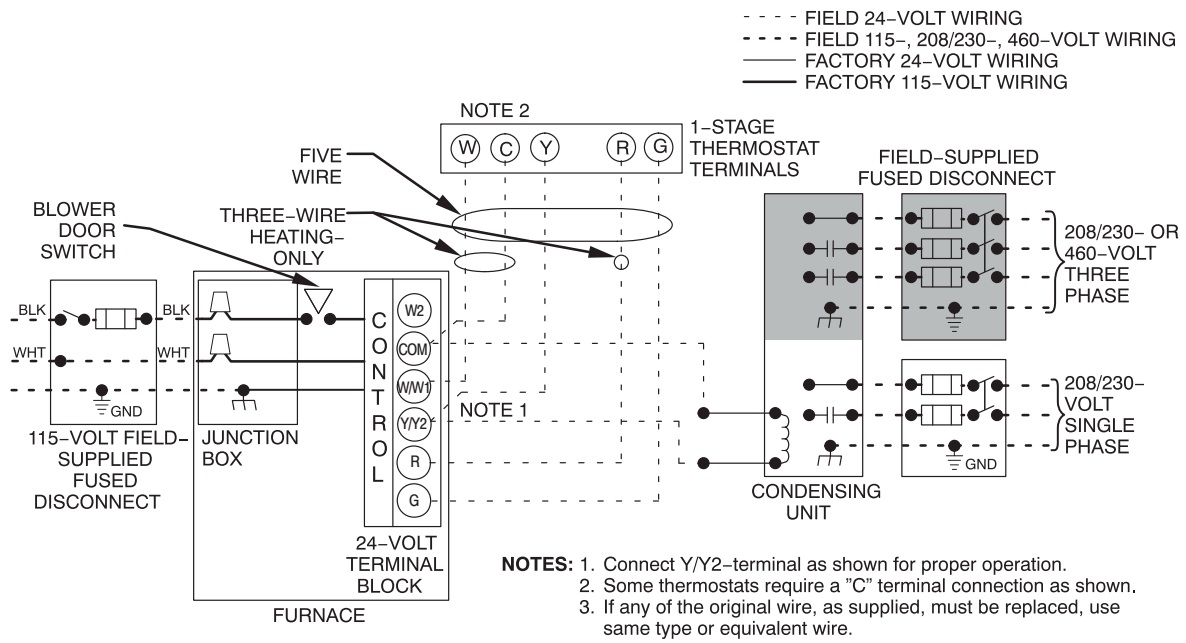
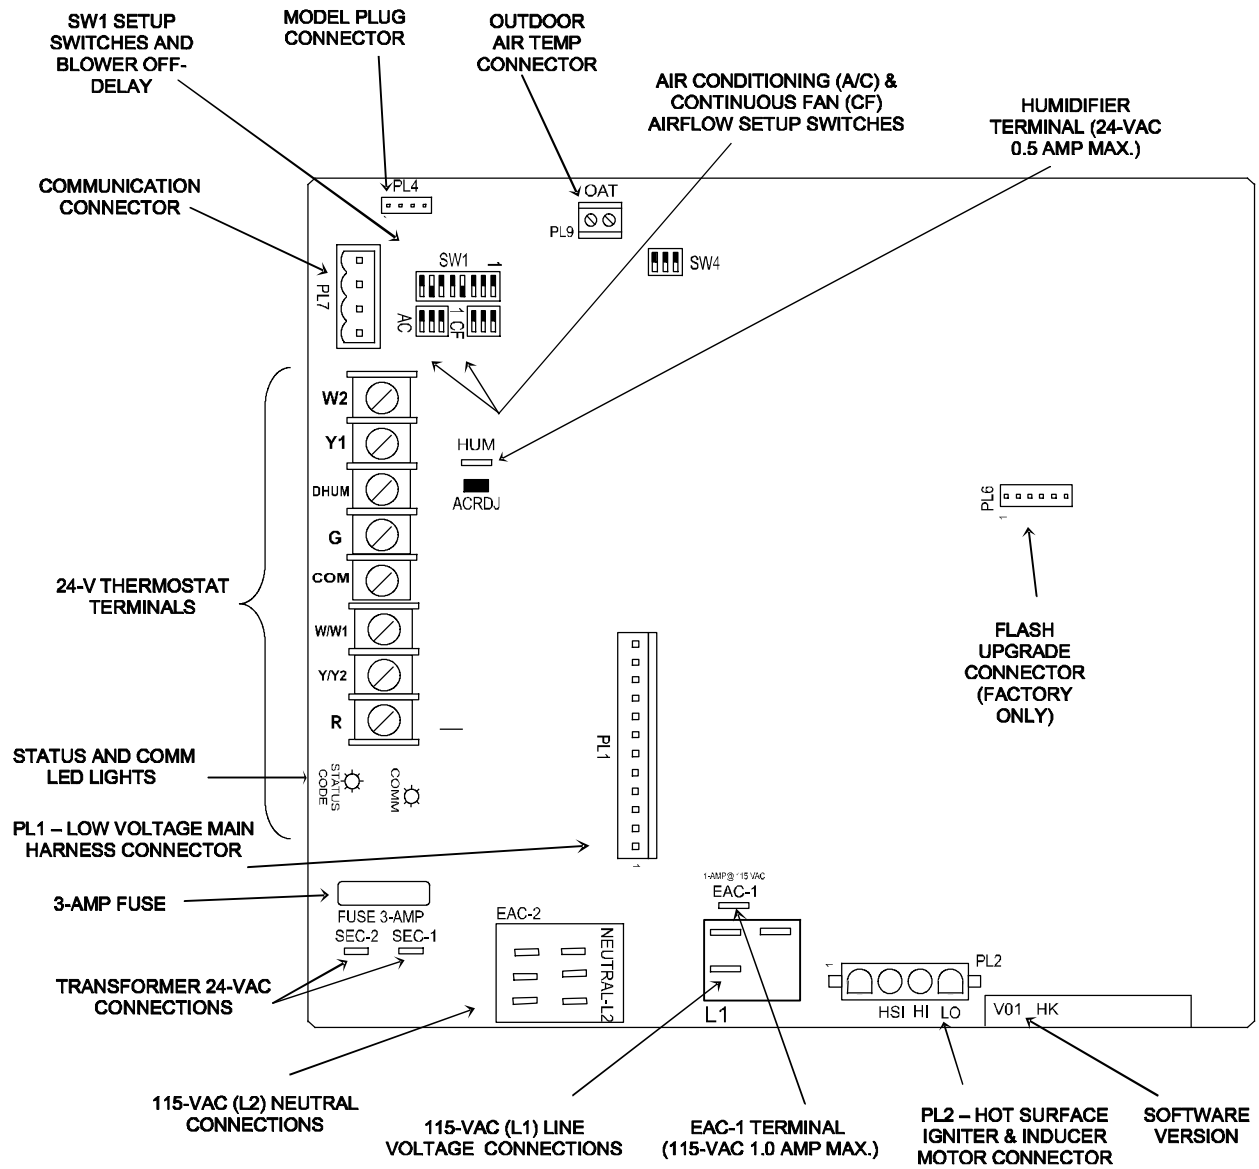

Fig. 36 - Typical Two-Stage Field Wiring Diagram
Fig. 37 - Example of Variable Speed Furnace Control
- Connect power cord power and neutral leads to furnace power leads as shown in Fig. 36.
- Connect field power and neutral leads to furnace power leads. as shown in Fig. 36.
Make field 24-v connections at the 24-v terminal strip. See Fig. 37. Connect terminal Y/Y2 as shown in Fig. 36 for proper cooling operation. Use only AWG No. 18, color-coded, copper thermostat wire.
The 24-v circuit contains an automotive-type, 3-amp. fuse located on the control. Any direct shorts during installation, service, or maintenance could cause this fuse to blow. If fuse replacement is required, use **ONLY** a 3-amp. fuse of identical size. See Fig. 37.
installation instructions for specific information about configuring the thermostat. See Fig. 37 and 38.
an optional communicating User Interface instead of a standard thermostat. The communication plug is supplied with the User Interface. Refer to the instructions supplied with the User Interface for complete details. See Fig. 37.